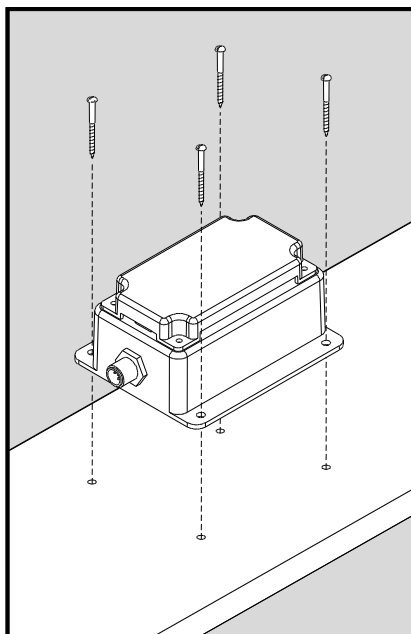

Figure 1 – Mounting the DCM100
Attach the DCM100 securely to the vessel using the included stainless steel mounting screws or other fasteners as shown in Figure 1 below. Do not use threadlocking compounds containing methacrylate ester, such as Loctite Red (271), as they will cause stress cracking of the plastic enclosure.